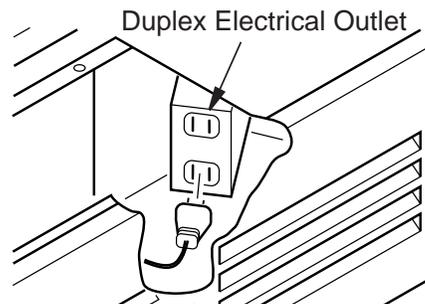

Figure 14 - Accessing Duplex Electrical Outlet Installed in Bottom Right Side of Fireplace
⚠ WARNING: If there is a duplex electrical outlet installed in the right side of the bottom of the fireplace base area (see **Figure 14**), be sure that the electrical power to the outlet is turned off before proceeding with blower installation. Failure to do this may result in serious injury.
7. Plug in blower power cord to duplex outlet (see **Figure 14, Page 15**).
6. Plug in blower power cord to duplex outlet (see **Figure 14, Page 15**).